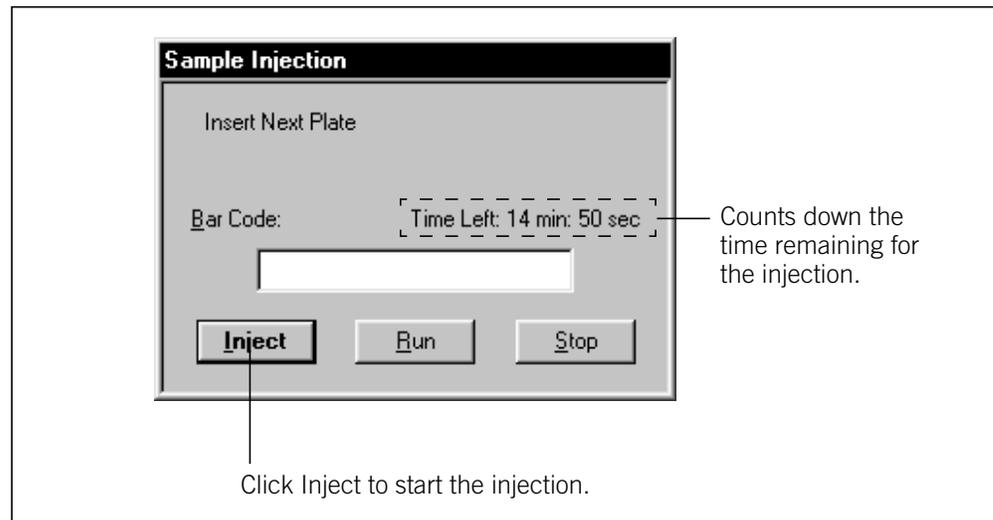

Figure 15-12. The Sample Injection window with no entry in the Bar Code box.
7. When the Sample Injection window appears for the next injection (figure 15-12), note the amount of time left to inject the plate. The timer in the window begins counting down the time remaining in the injection timeout period. Do one of the following: